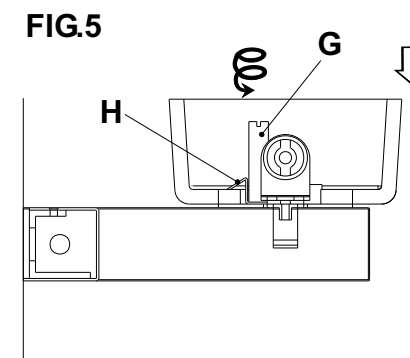

FIG.6
7. **For the halogen version only**-position the Pyrex glass 'on the top of the bulb over the pins "G" and secure it with the two screws provided. FIG.6
7. Install the light bulb (s). FIG.6
8. For the halogen version only-position the Pyrex glass 'on the top of the bulb over the pins "G" and secure it with the two screws provided. FIG.6